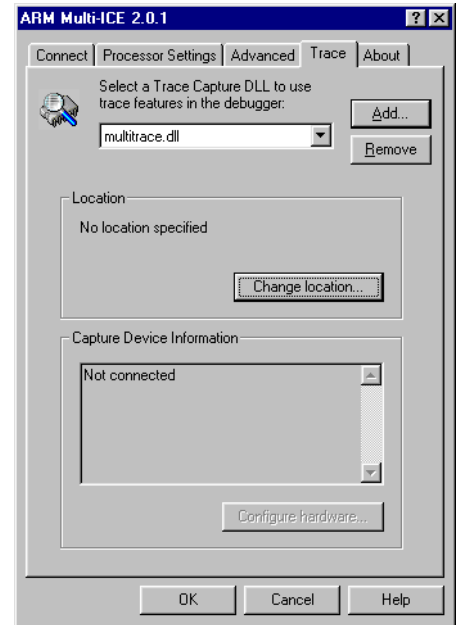

Figure C-4 Multi-ICE configuration dialog box showing the Trace tab
4. Click **Configure** to display the RealMonitor Configuration dialog box (Figure C-4 on page C-5).
7. In the Multi-ICE configuration dialog box, click the **Trace** tab (Figure C-4).